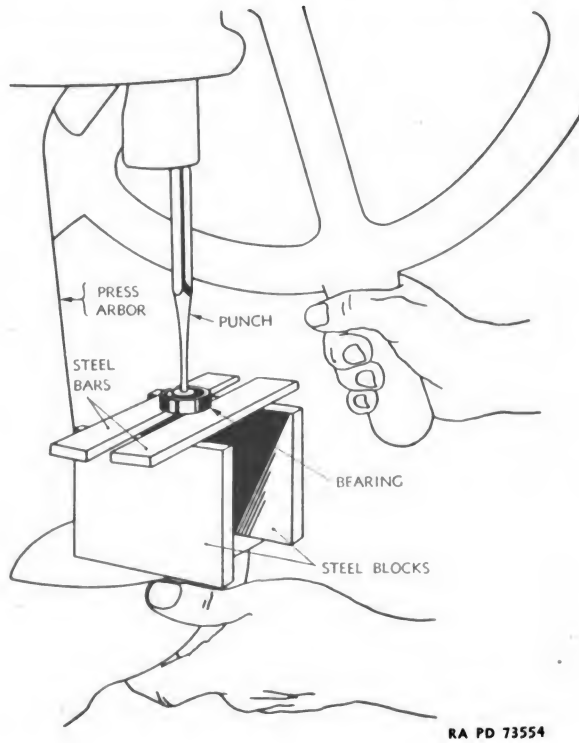
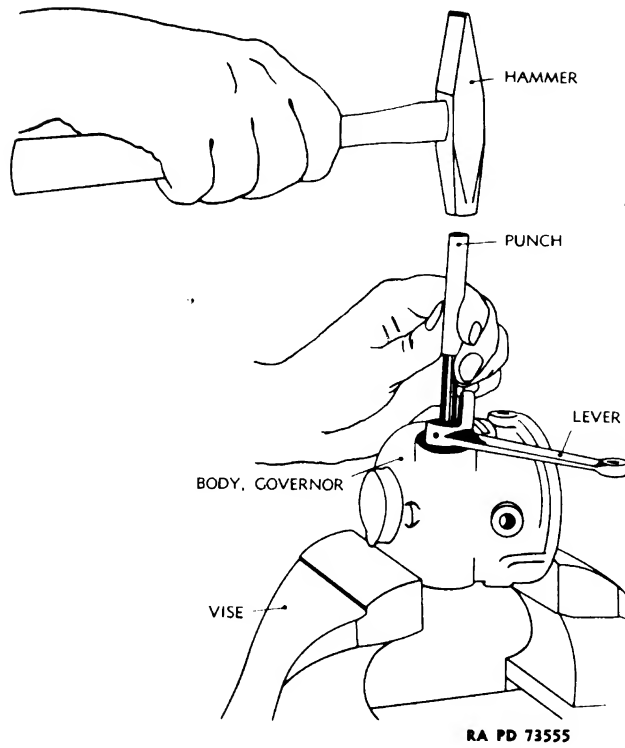

Figure 111 — Pressing Bearing and Sleeve from Shaft
Figure 112 – Driving Rocker Shaft through Lever
- (5) Press bearing and sleeve from shaft (fig. 111).
- (6) Slide thrust sleeve and bearing off shaft.
- (7) Grind down the peened-over ends of the pins holding the weights to the spider, take out pins, and remove weights.
- (8) Drive groove pin through spider and shaft. Press spider from shaft.
- (9) Take out cap screws and lock washers, and remove yoke from rocker shaft.
- (10) Drive out taper pin holding lever to rocker shaft. Drive rocker shaft through lever, knocking out end bearing and welch plug (fig. 112). Reverse shaft, and use it for a punch to knock out the remaining bearing.